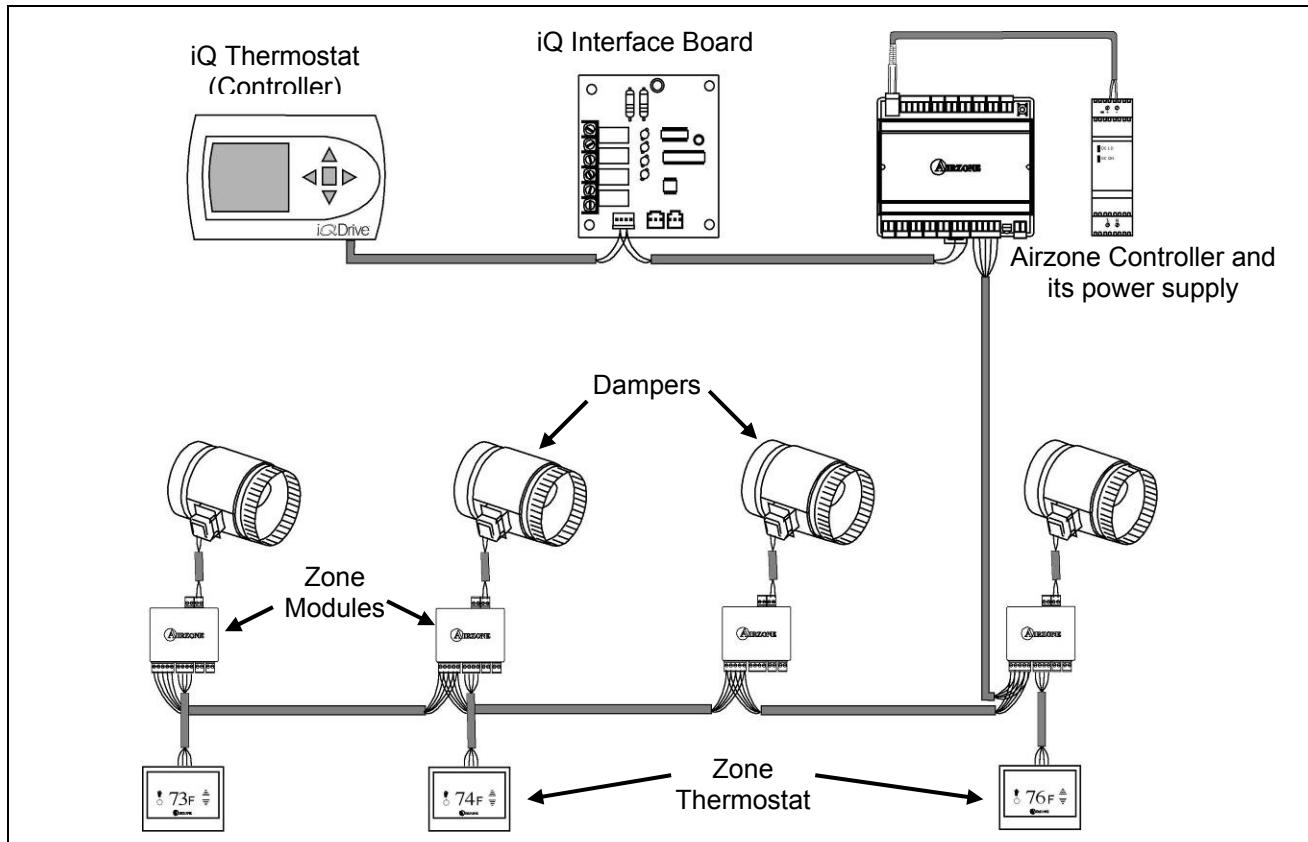

Fig. 1 - Daisy Chain Connection
- Do not locate the thermostat where it is exposed to air currents that are not typical of the space. (Fig. 1).